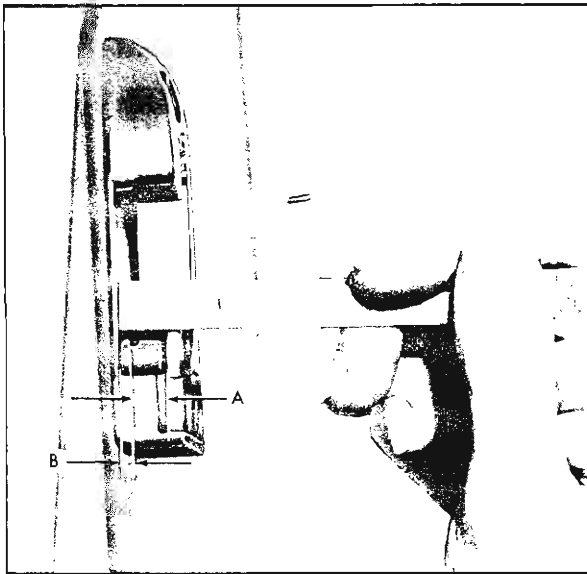

Fig. 3-18 Striker Engagement Check
2. To determine if door lock striker emergency spacers are required, apply modeling clay or body caulking compound in door lock striker notch where lock extension engages and then close door to form measurable impression in clay or caulking compound (Figure 3-18).